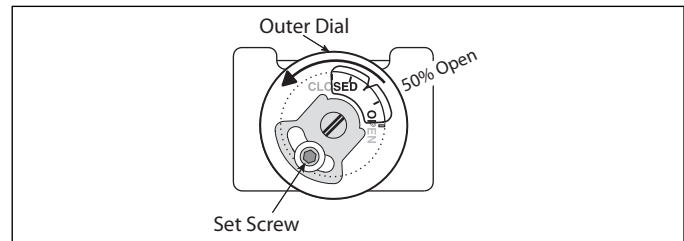

Figure 4.3. Manual Gas Butterfly 50% Open
3. Set the manual gas butterfly valve at each burner to 50% open. See Figure 4.3.